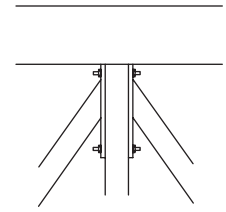

Figure 4
5. Position diagonal braces in bays between uprights; use diagram in Appendix 1 (Page 6) to ensure correct location and orientation of each diagonal. At top of center upright, attach the two mating diagonals using all thread bolts (F), flat washers (J), and frame nuts (H) as shown in Figure 4. At all other diagonal to upright connections, attach with frame bolts (E), flat washers (J), and frame nuts (H). Tighten all nuts thoroughly.